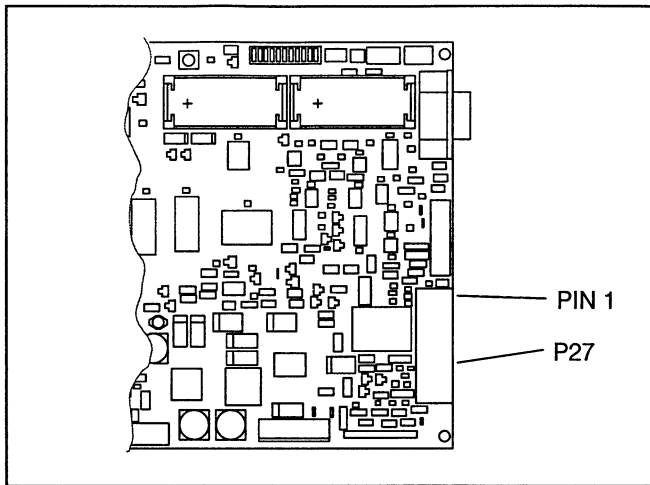

FIGURE 2. DIGITAL MODULE
7. Route wire leads to J27 on the Digital module (Figure 2).